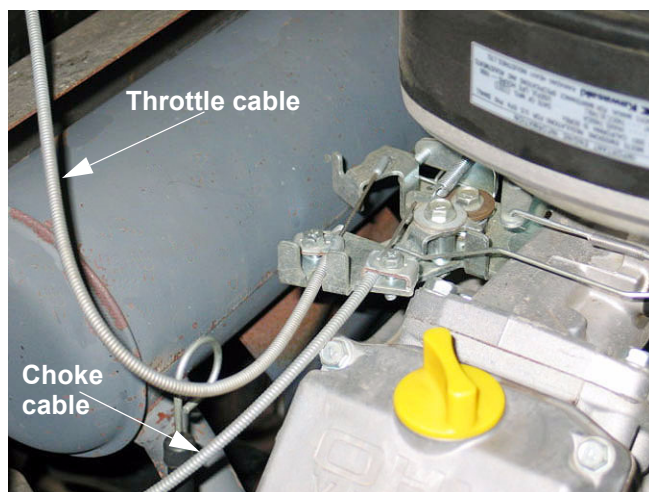

Figure 1.15
- 1.15. On gasoline powered tractors, the choke cable must also be disconnected. Use an 8mm wrench to loosen the cable clamps, then unhook the z-fittings. See Figure 1.15.